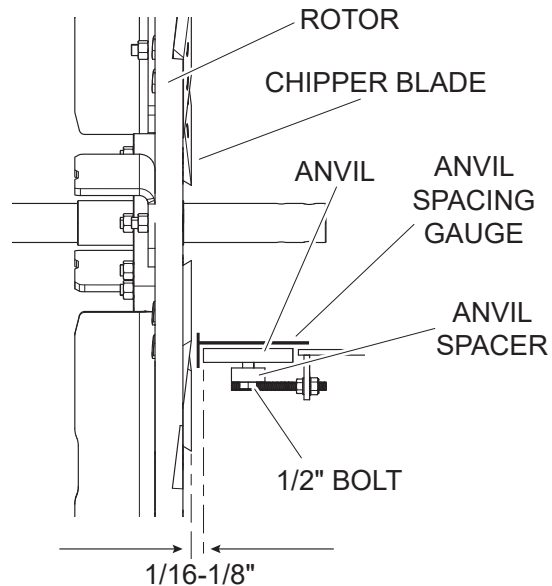

Figure 5.5, Chipper Blade/Anvil Clearance
4. Raise the feed roller (see Figure 5.6). Install anvil spacing gauge (see Figure 5.5).